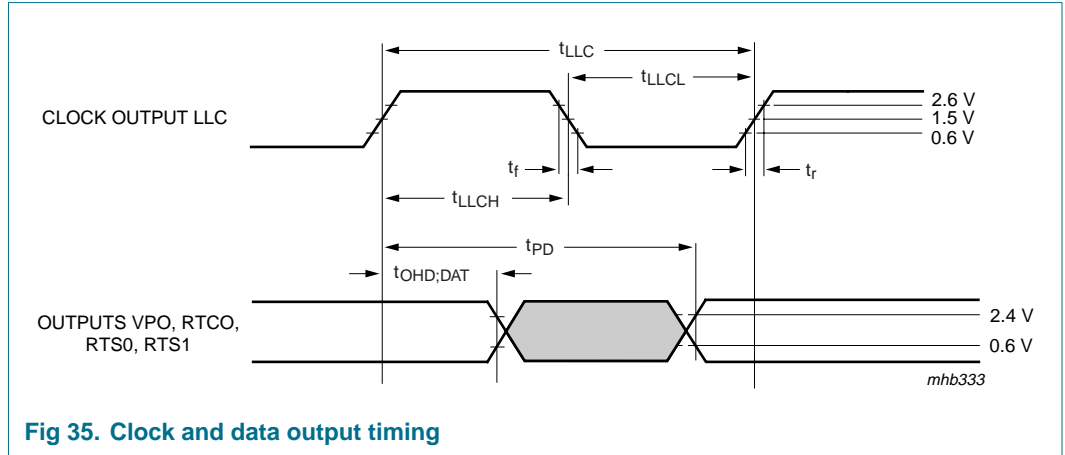

Fig 35. Clock and data output timing
- [3] The levels must be measured with load circuits;  $I_O = \pm 2\text{ mA}$ ;  $C_L = 50\text{ pF}$ . Timings and levels refer to drawings and conditions illustrated in Figure 35 and Figure 36.
- [4] The effects of rise and fall times are included in the calculation of  $t_{OHD,DAT}$ ,  $t_{PD}$  and  $t_{PDZ}$ . Timings and levels refer to drawings and conditions illustrated in Figure 35.